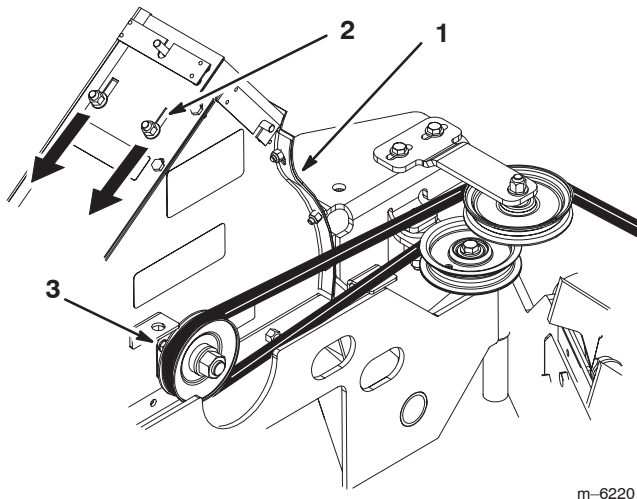

Figure 31
- Push the top 2 bolts down, toward the front of blower, until the blower liner conforms to the inside of the blower (Fig. 31). This will provide clearance between the impeller and the liner.
- Rotate the blower pulley to verify that the blower fan does not hit the liner (Fig. 31). Adjust the liner if necessary.
- Tighten the 2 top bolts in the liner and the blower (Fig. 31).